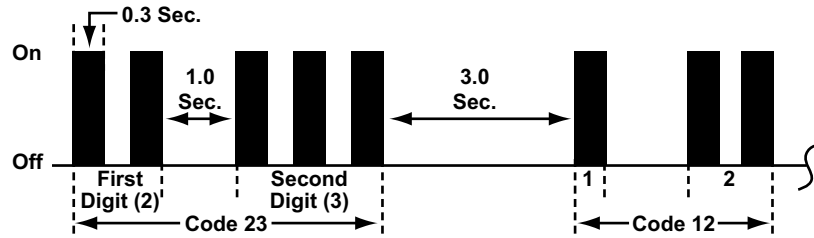

Figure 7-14 Engine Code Type 01
- Type 01 engine codes, see Figure 7-14 and Table 7-1